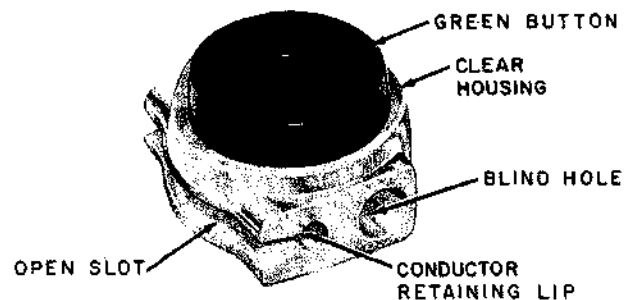

Fig. 1—UG SCOTCHLOK Connector
2.01 The UG SCOTCHLOK Connector (Fig. 1) is a three-piece bridging connector consisting of a clear plastic housing, a green plastic button, and a slotted metal insert. The housing features an open slot for accommodating a through conductor and a blind hole for inserting the free end of the conductor to be bridged. When the green button is pressed flush with the clear plastic housing, the slotted metal insert penetrates the insulation on the wires and makes connection to the wires.
4.01 To install the connector, refer to Fig. 1 and proceed as follows: